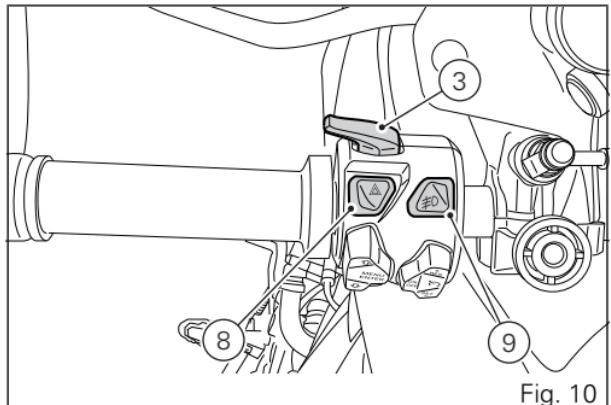

Fig. 10
3) ON/OFF AND LIGHT BUTTON (LOW BEAMS / HIGH BEAMS)(Fig. 10)